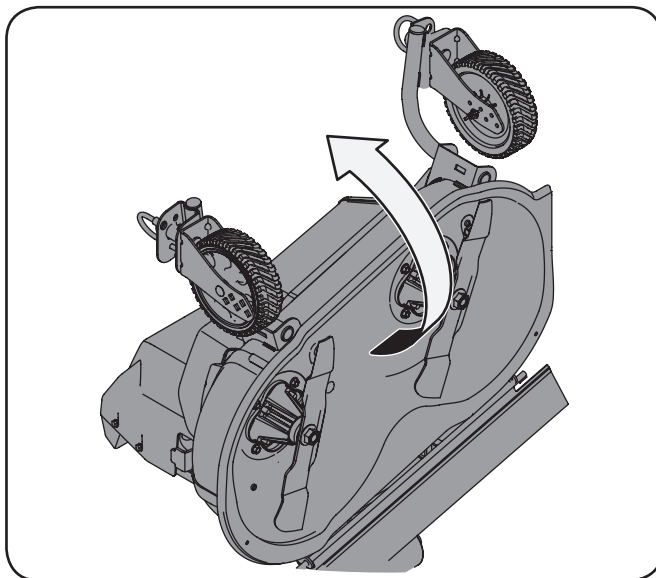

Figure 6-1
2. Pivot the mowing attachment backwards onto its mounting assembly, as shown in Figure 6-1.